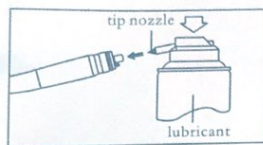

Fig.6
- 2) Mount the tip nozzle into the lubricant can. (Fig.6)